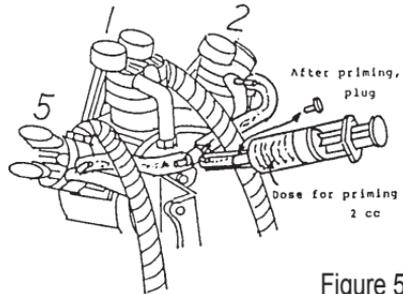

Figure 5
**NOTE:** the priming process for the FA-325R5D is described as follows: (See Figure 5)